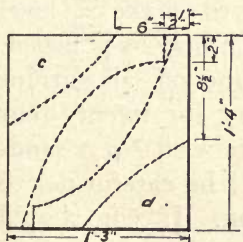

FIG. 41.—METHOD OF CUTTING OUT LEGS OF CLOTHES TREE.
3. Laying out, planing, and sawing legs. — The dotted lines of Fig. 41 show how two legs may
be laid out on one piece  $15'' \times 16''$  with the least waste of lumber. The curves are not arcs of circles and so must be laid out free hand, after locating the points as indicated in Fig. 41.